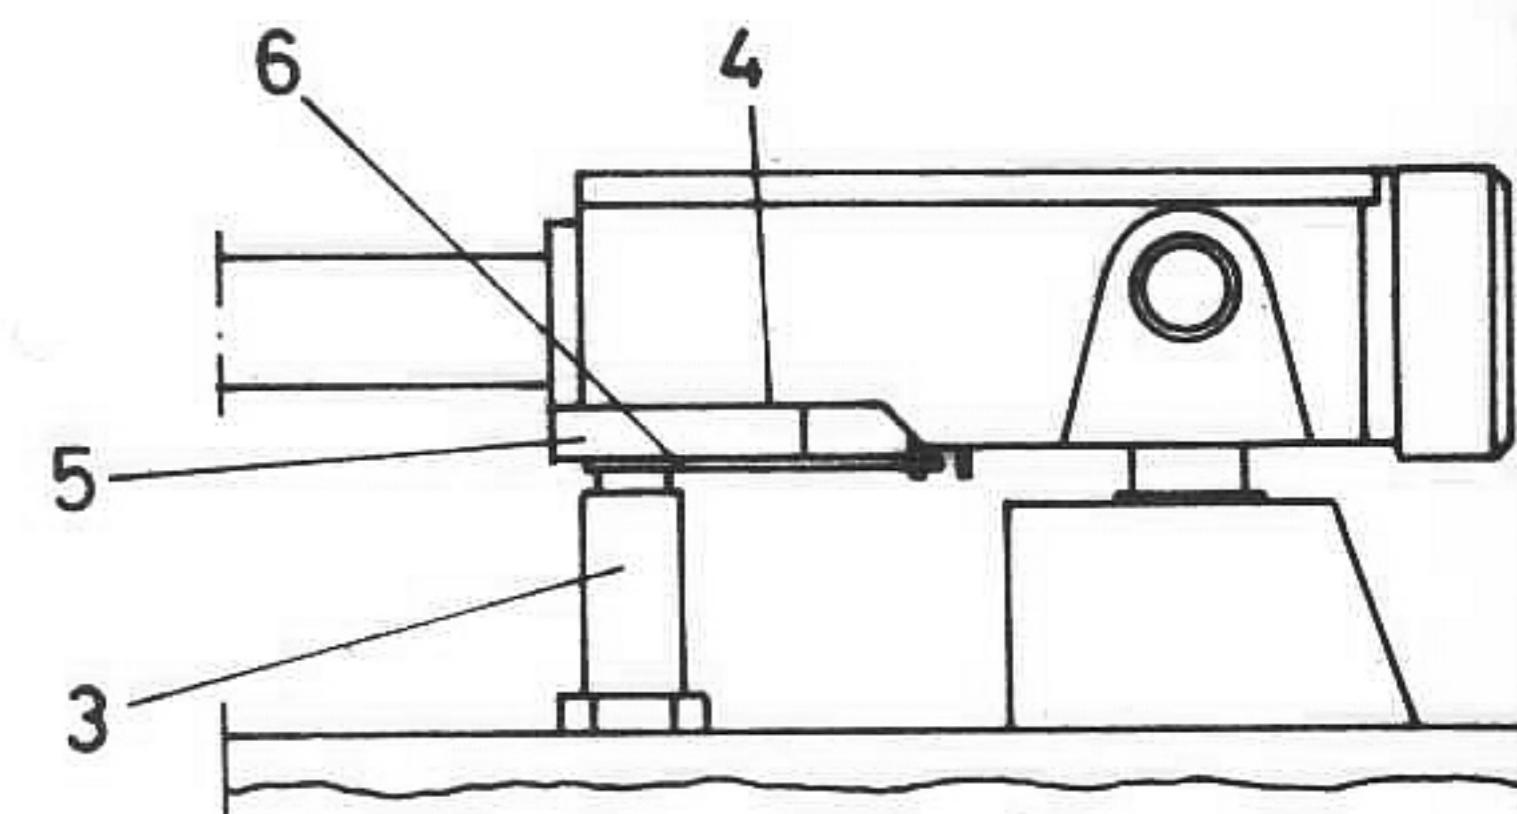

Fig. 16
LYFTAXELNS (1) FIG. B ÖVRE LÄGE BESTÄMMES GENOM TRÅDENS (2) ANLIGGNING MOT BUSNINGENS (3) UNDERSIDA. TONARMENS ÖVERLÄGE BLIR DÅ I REGEL RÄTT, MEN OM SÅ ÄR NÖDVÄNDIGT KAN EN JUSTERING GÖRAS I PUNKT (4) FIG. 16 GENOM BOCKNING AV VINKELN (5) SÅ ATT DENNAS NEDSTÅENDE KANT BLIR HÖGRE ELLER LÄGRE. I DET ÖVRE LÄGET SKALL DET VARA ETT AVSTÅND MELLAN NÅLSPETS OCH SKIVA AV MINST 7 MM ÖVER YTTERSPÅRET PÅ EN 30 CM:S SKIVA (HÖJDEN MINSKAS NÅGOT INÅT) OCH MAX. 12 MM.
NÄR TONARMENS NÅLSPETS NÅTT SKIVAN, SKALL LYFTAXEL (1) FORTSÄTTA NED SÅ ATT ETT SPEL AV MIN. 1 MM ERHÅLLES VID (6) FIG. 16 (I REGEL VID STOPP MOT BUSNINGENS (3) ÖVERSIDA).